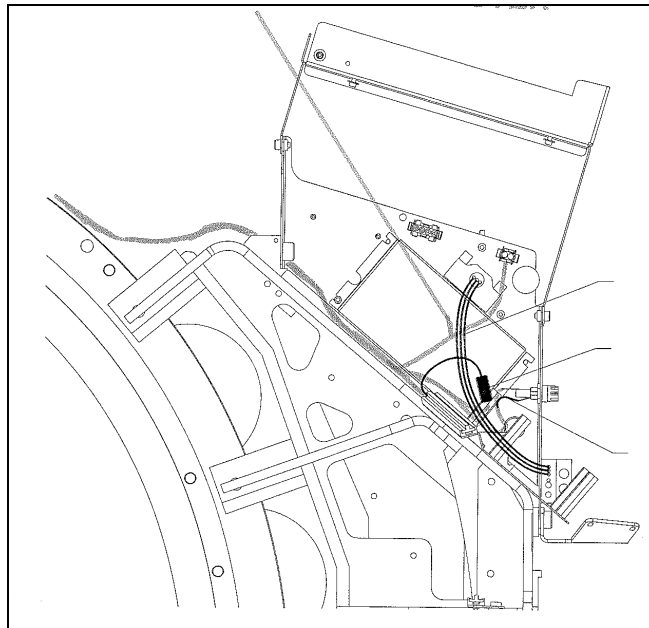

Figure 10. 120 VAC/Encoder Cable Routing – Gantry Right Hand Fan, Front
19. Refer to figures 10, 11 and 12. Disconnect four wires on supply side of AC Filter.